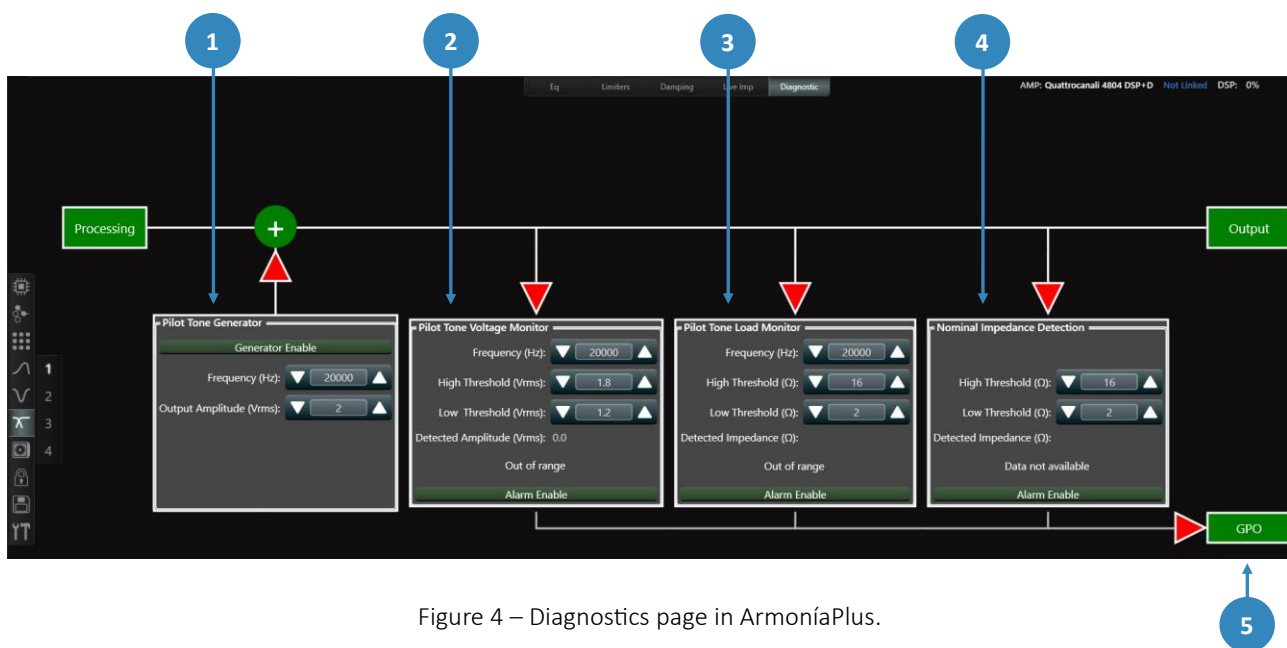

Figure 4 – Diagnostics page in ArmoníaPlus.
4. The diagnostics page should then be displayed (Figure 4), with its different monitoring blocks. Note that the output diagnostics configurations are done individually for each amplifier output channel.